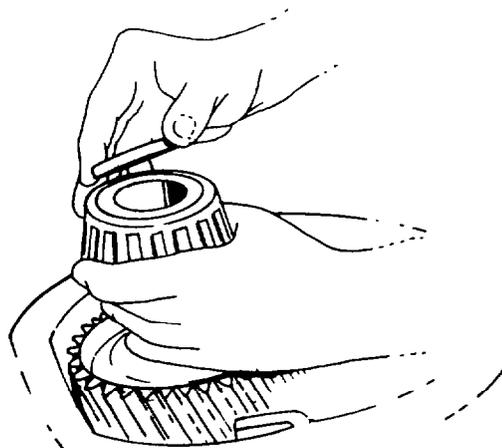

Fig. 221 — Removing Inner Bearing Cone and Bearing Spacer
- h. Remove the front drive shaft inner bearing cone and the selective bearing spacer from the shaft (see fig. 221).